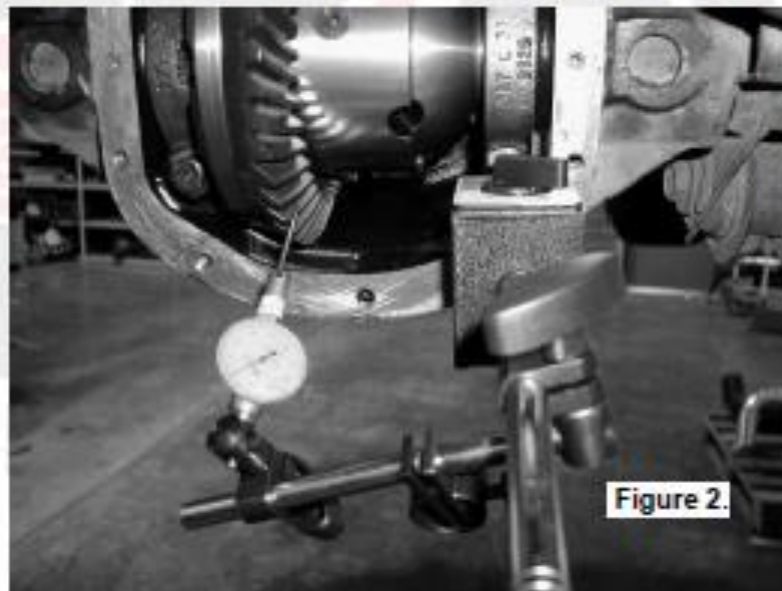

Figure 2.
- ☐ Set a depth indicator on one of the ring gear teeth as in figure 2.